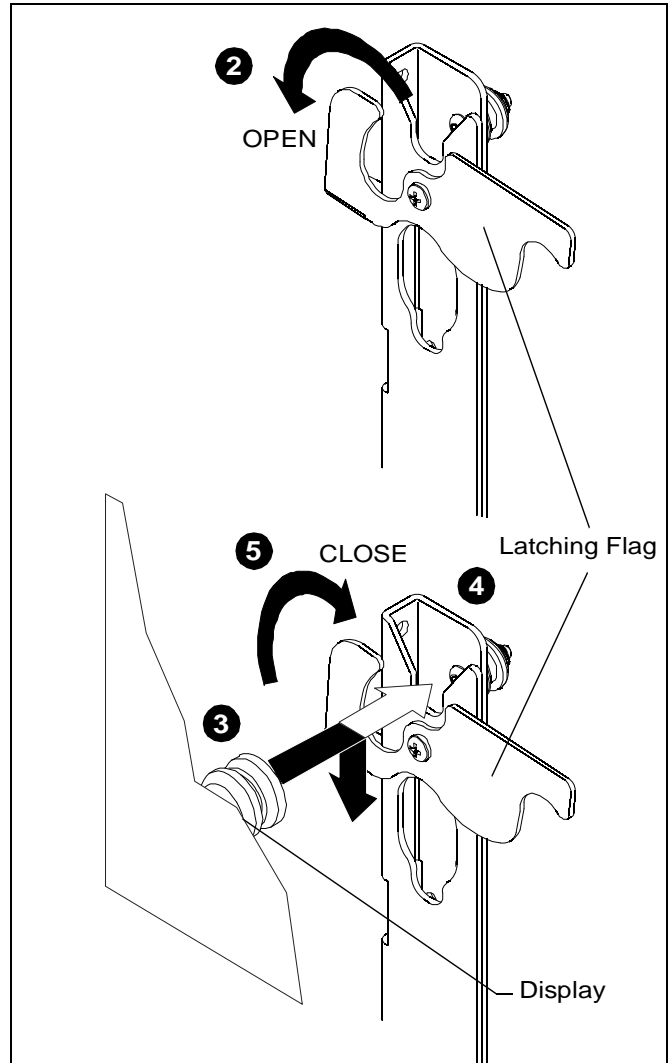

Figure 5
2. Verify latching flag is in the OPEN position. (See Figure 5)
5. Move latching flag to CLOSED position to secure display on accessory. (See Figure 5)